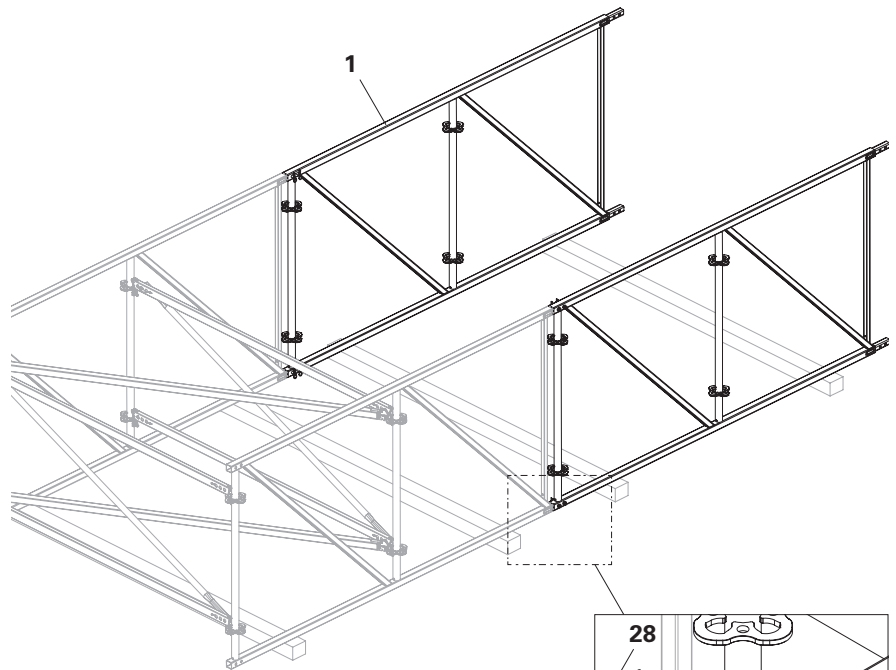

Fig. A1.05
1. Slide the tube of the Standard Element URB (**1**) into the pin of the Standard Element URB. (Fig. A1.05)